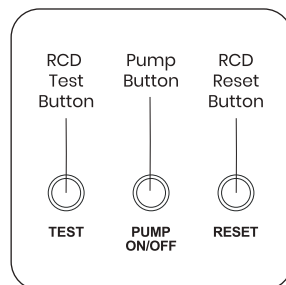

Fig. 11
3. Turn on the pump by pump button located at the heater (**Fig. 11**), the yellow **PUMP** indicator will light up.
RCD Test and Reset Buttons (**Fig. 11**)